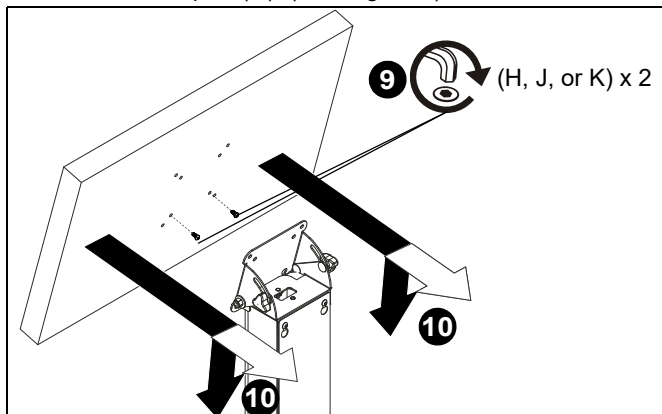

Figure 5
9. Use two selected screws (H, J or K) into lower two mounting holes on tablet. (See Figure 5)
10. Insert two installed screws (H, J or K) into lower drop holes on VESA adapter (G). (See Figure 5)